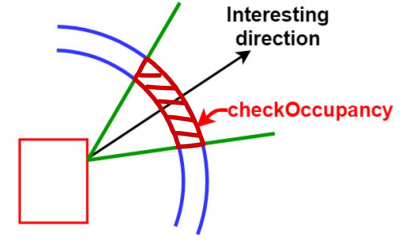

Figure 6: Check occupancy
- We meshgrid around youbot's position then compute each point norm and angle regarding to  $-\vec{y}$  axis. We retrieve only points between 3 to 4 meters and if the angle is in a cone of  $\text{meanAngle} \pm 15^\circ$  using (see Figure 6) :